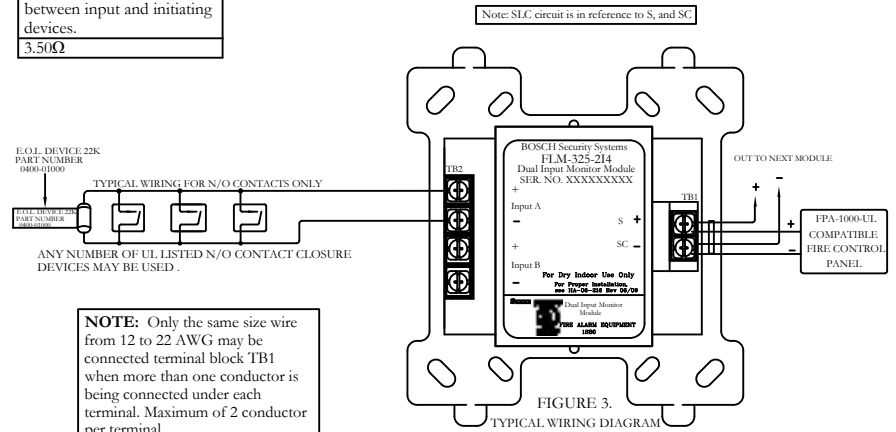

FIGURE 3.
- 1) Install module in accordance with the job drawings and appropriate wiring diagram (see Fig.3).